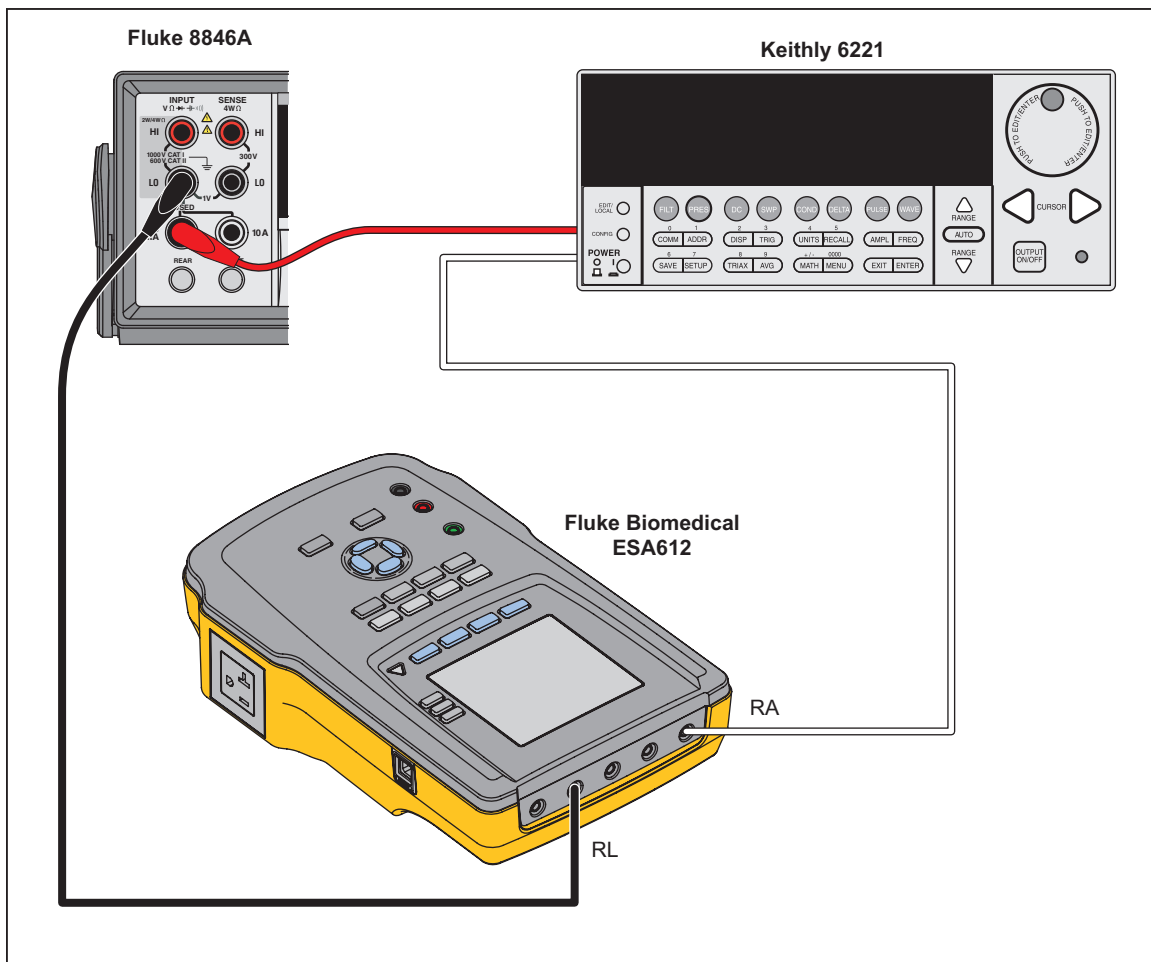

Figure 3-23. Patient Auxiliary Leakage: RA to RL Connections
1. Connect the current source to the 400 mA jack of the DMM and to the RL applied part. The DMM Input (-) should still be connected to the RA applied part. See Figure 3-23. Set the DMM to the 100 μA ac range and the current source to 100.000 μA (141.42 μA p-p), 100 Hz, with a 25 V compliance voltage.